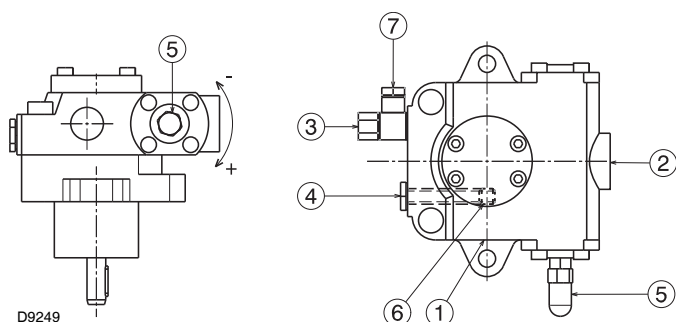

Fig. 22
The pumps are installed on the burner with the by-pass closed by screw 6) (Fig. 22).
- In order for self-priming to take place, one of the screw 4) (Fig. 22) of the pump must be loosened in order to bleed off the air contained in the suction line.
Key to layout (Fig. 22)
If the pump has been drained, fill it with fuel through the opening on the vacuum meter 4) (Fig. 22) prior to starting; otherwise, the pump will seize.
In order to adjust pump pressure, use the relevant screw 5) (Fig. 22). See the information listed on page 18.